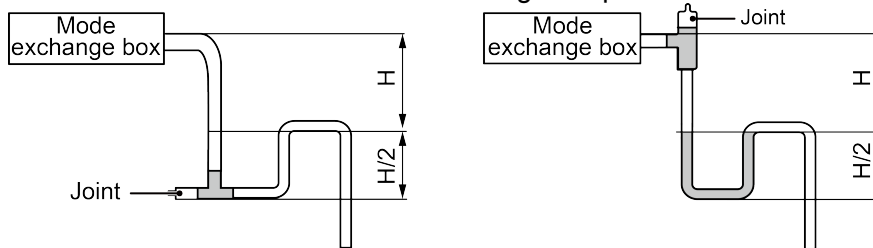

Fig.4.39
- (5) Install the U-trap as shown in Fig.4.39.
- (6) One U-trap should be installed for every unit.
- (7) Convenient clean should be considered when installing U-trap.